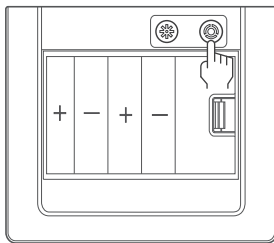

Figure 4
2. As shown in Figure 4, press "  " on the battery compartment and there will be a voice prompt "Safe mode is on", indicating successful activation. Press the button again can turn "Safe mode" off.